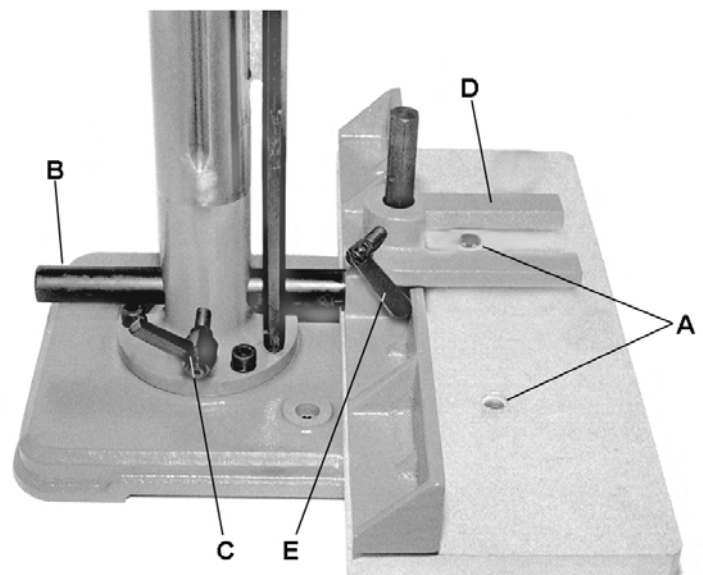

Figure 3
5. Attach the table to the base using two screws (A, Fig.3).
6. Insert bar of fence assembly (B, Fig.3) through the hole in the column. Use the fence-locking handle (C, Fig.3) to adjust fence assembly.
7. Attach the hold down (D, Fig.3) to the vertical post using locking handle (E, Fig.3).